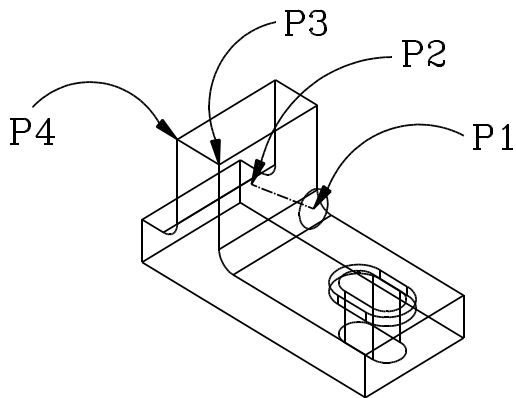

Figure 14
55. Click on points P1, P2, and P3, then click on points P1, P2, and P4. (See Figure 14.)